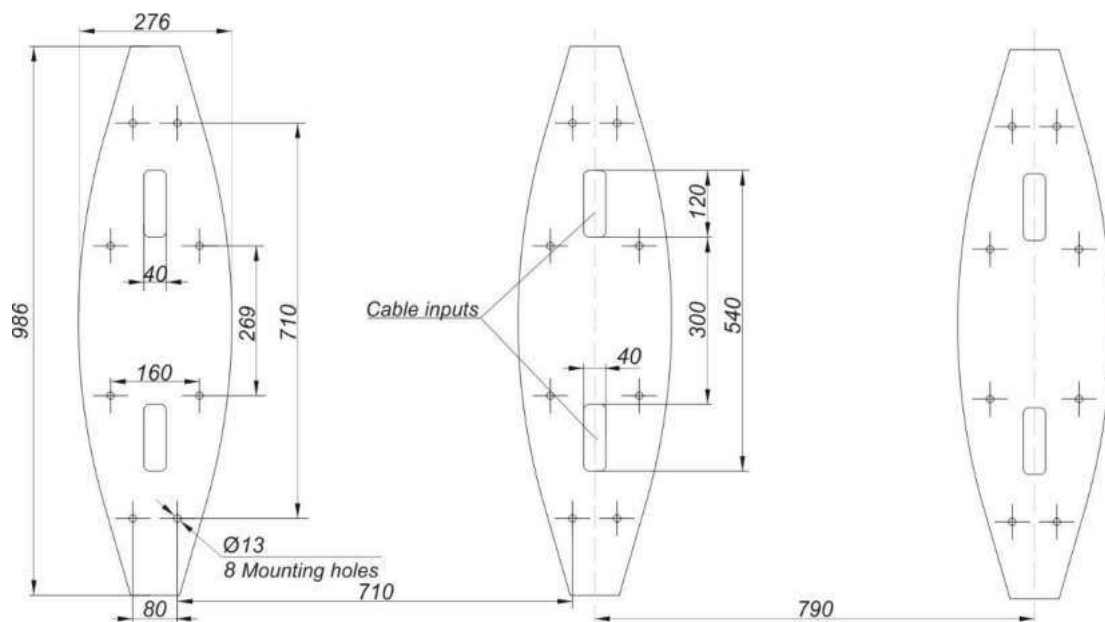

Fig. 16– Installation dimensions of the set «JETPAN-BM-1» and «JETPAN-BM-2» turnstile
- Unscrew the two screws that fix the turnstile base to the shipping container from both sides (3) and remove the turnstile from pallet;
- The turnstile fixation holes to be marked on the site surface according to *Figure 16*. The turnstile itself, located upright at the installation site, can be used as a template
4. – align fixation holes at the turnstile bottom plate with the prepared surface holes according to the marking shown in Fig. 16;